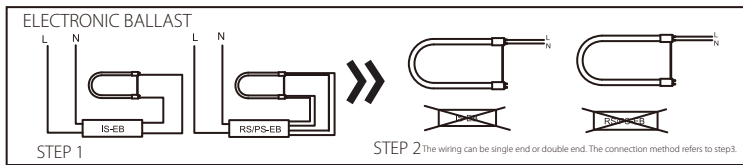

Fig:2
2) Remove the existing ballast and existing starter (if present) from the fixture (Fig.2).